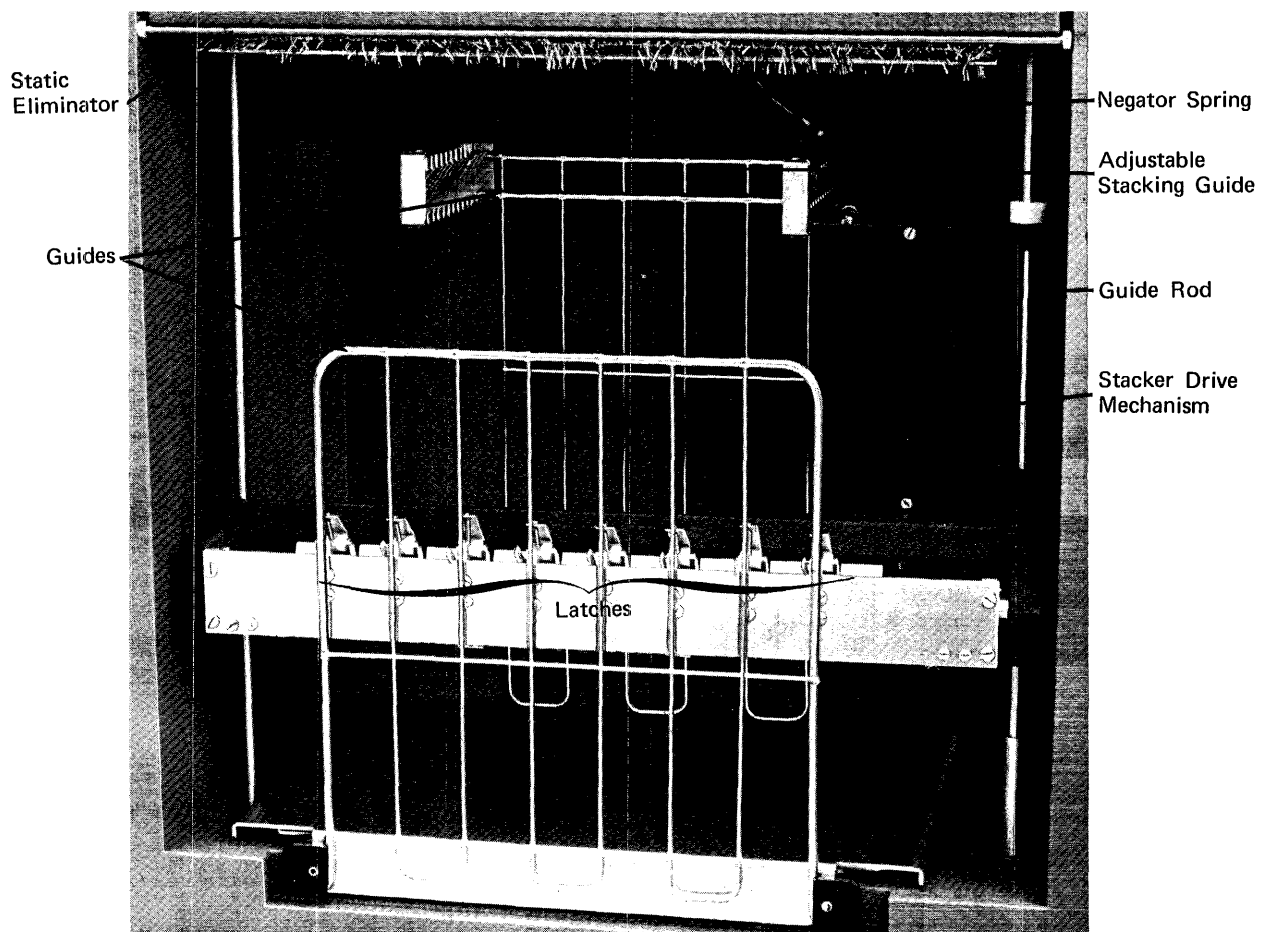

Figure 22. Forms Stacker, Model N1
For the 1403 Model N1: position the adjustable stacking guide and the hinged forms guide (Figure 22) to center the stack of printed forms directly beneath the stacker rolls. The adjustable stacking guide can be shifted from front to back by engaging it in the correct holding slots at the top. The hinged forms guide can be adjusted from front to back by sliding the paper tray in or out as required. Of course, this guide must be in the raised position during stacking.
1. Starting at each edge of the form and progressing toward the center, engage with the stacker rolls only as many paper-tension idler rolls (Figure 22) as are required to pull the forms smoothly from the printer into the stacker. This applies particularly to multiple-part forms.